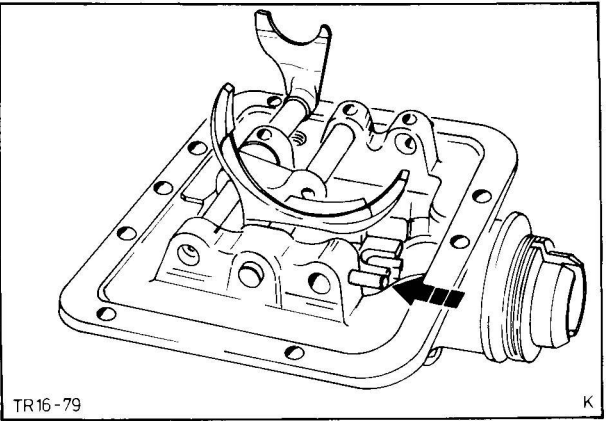

Fig. 130. Insert interlock plunger between 3rd/4th gear and 1st/2nd gear selector rails
8. Insert interlock plunger between 3rd/4th gear and 1st/2nd gear selector rails, Fig. 130.